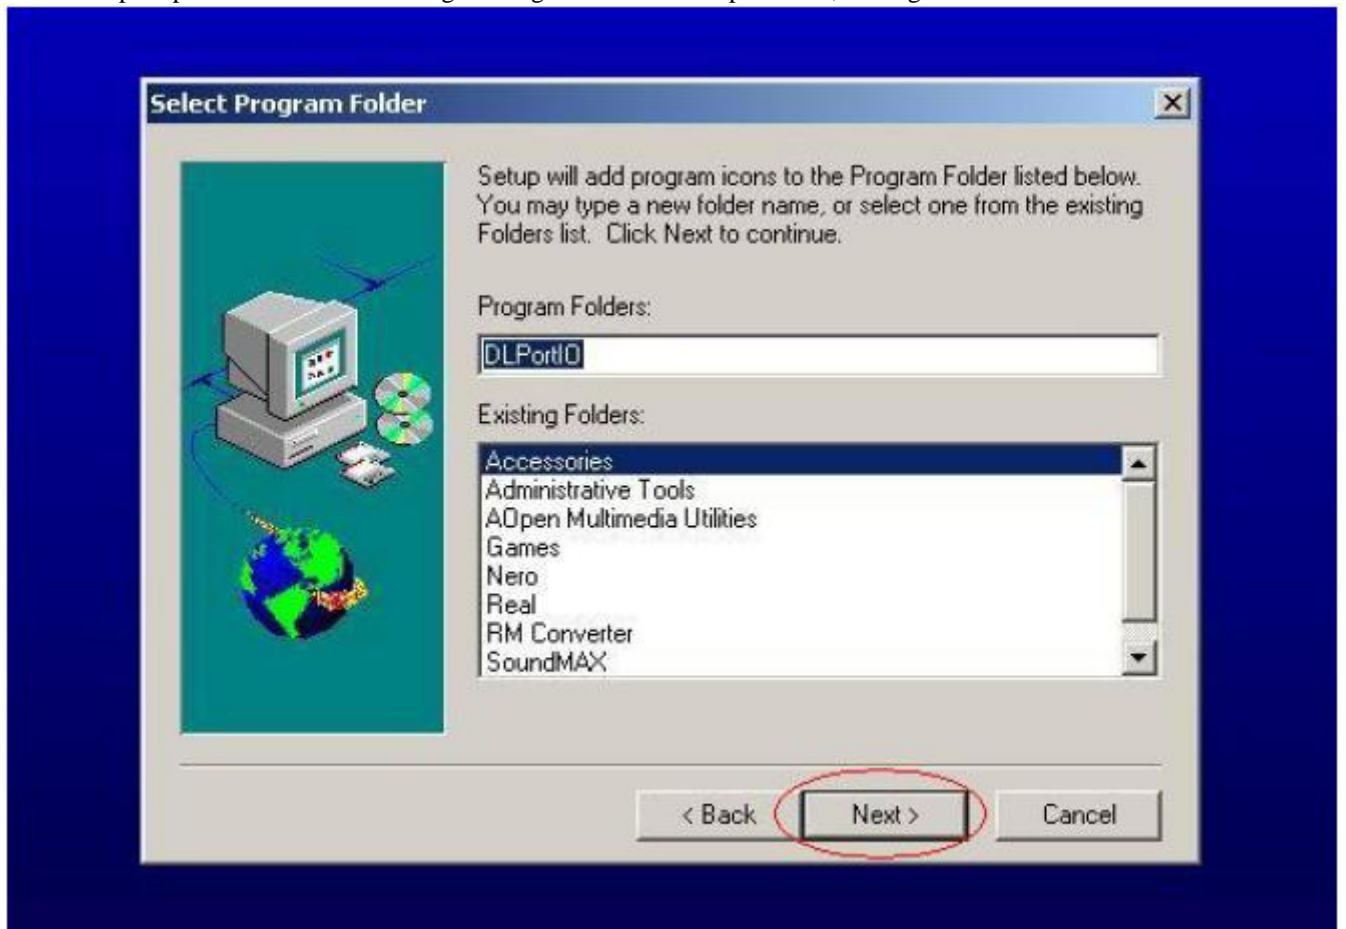

Fig. 0.4
0.4 Keep on press “Next “ 4 times to go through the installation processes, see Fig. 0.4